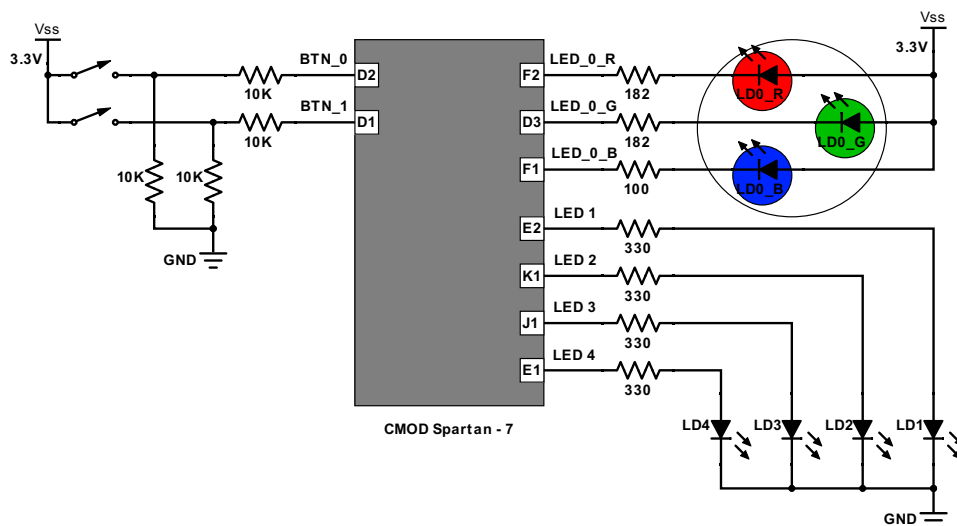

Figure 1: CMOD Spartan 7 LEDs and Buttons
- 1.3. Using the schematics of the board (Figure 1), if the FPGA sends a logic 1 to one of the LEDs (1-4) would it turn on or off? What about one of the RGB LEDs? (LED0_R, LED0_G, LED0_B)